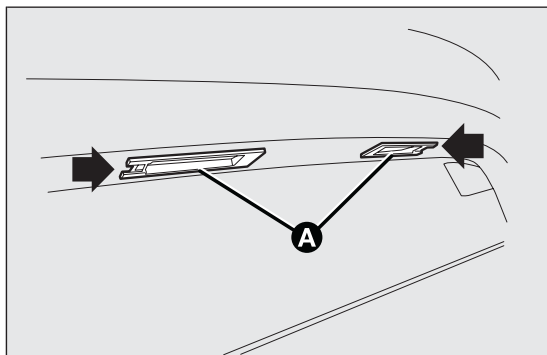

fig. 172
- operate in the point indicated by the arrows and remove the lens units A fig. 172;